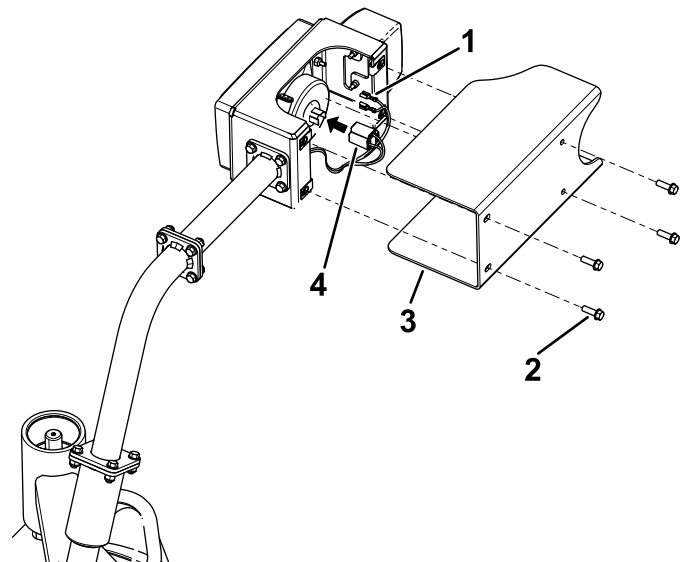

Figure 11
1. Remove the shields from the headlights (Figure 11).
4. Install the front light electrical connectors (Figure 11).
5. Install the shields to the headlights (Figure 11).